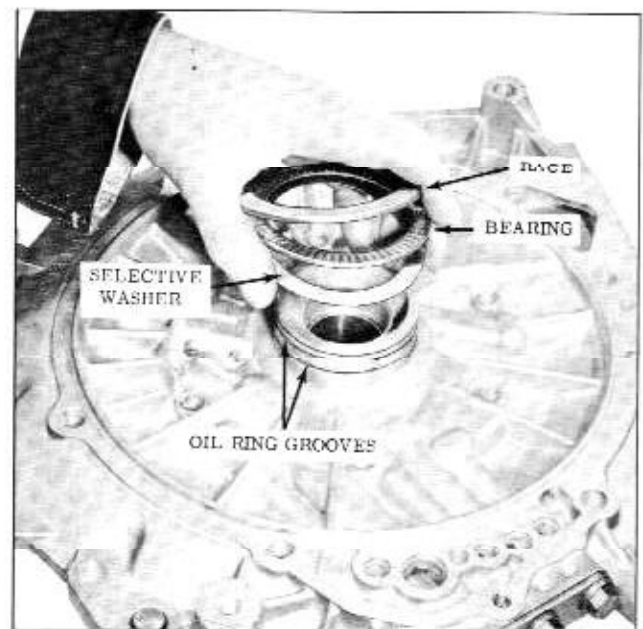

Fig. 3-59 Removing Race, Bearing and Washer
5. Remove race, thrust bearing, race and selective washer(s) from case cover. (Fig. 3-59)